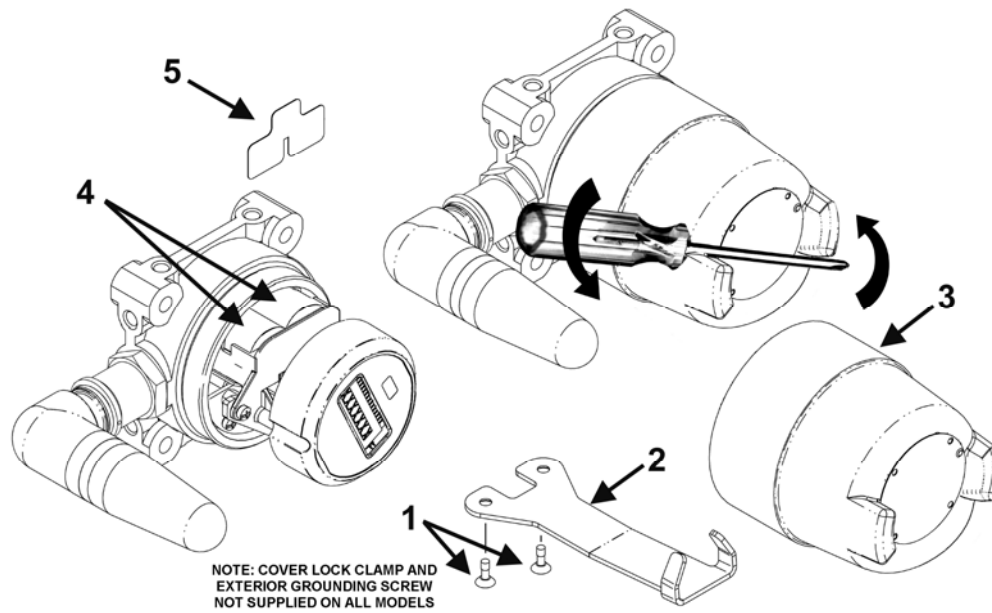

Figure 2 Battery connecting
**(For item numbers, refer to Figures 2 and 3)**
<p>ATTENTION</p> <p>If the sensor or input linkage has been removed since the last successful calibration, and the input shaft may have rotated past the potentiometer end points (where the slip clutch must slip), then re-setting the device angle (steps 3-3.9) will be required (See Figure 2).</p>